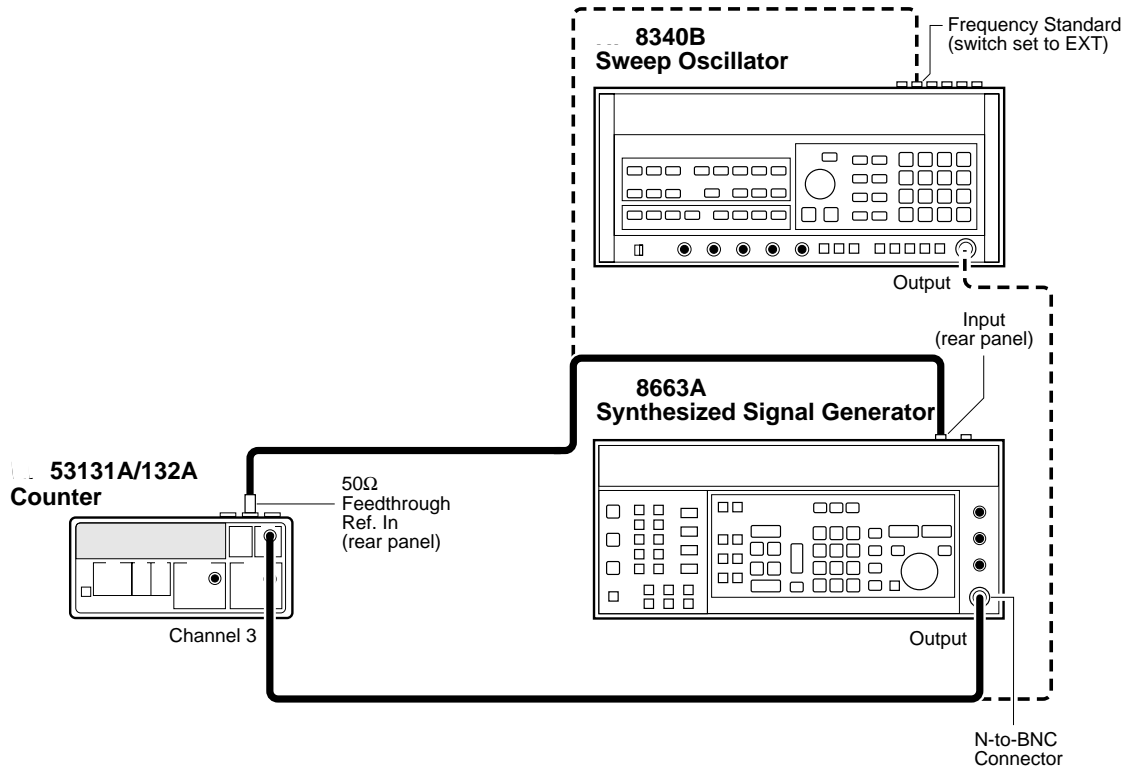

Figure 1-9. Option 030/050/124 Channel 3 Frequency Sensitivity and Accuracy Test Setup
- 1 Set the Agilent 8663B Synthesized Signal Generator to output a 2500 MHz, -40 dBm sine wave, and connect the signal to Channel 3 of the Counter as shown in Figure 1-9.
- 1 Disconnect the Agilent 8663A Synthesized Signal Generator from the Counter (see Figure 1-9), and connect the Agilent 8340B Sweep Oscillator to Channel 3 of the Counter.**
- 1 Connect equipment as shown in Figure 1-9.
5 Disconnect the Agilent 8663A output from Channel 3 of the Counter, and connect the Agilent 8340B Sweep Oscillator output to Channel 3 of the Counter as shown in Figure 1-9.